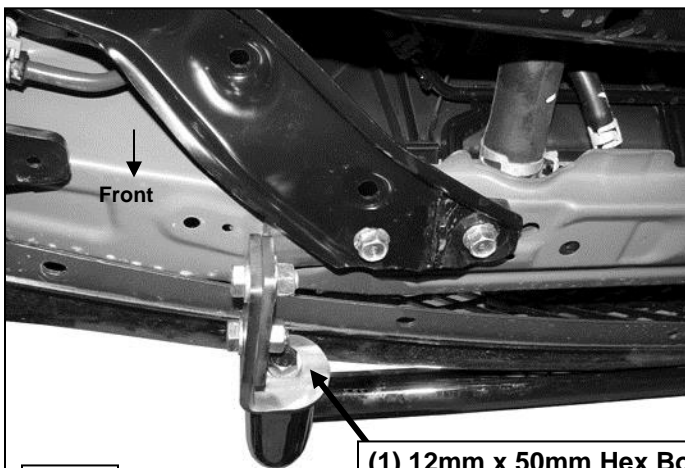

Fig 5
- Place the City Bar face down on a clean surface in front of the vehicle. **NOTE:** Use the packing materials to protect the finish on the City Bar. With assistance, carefully position the City Bar up to the Mounting Brackets. Attach the City Bar to the Mounting Brackets with the included (2) 12mm x 50mm Hex Bolts, (2) 12mm Lock Washers, (2) 12mm Flat Washers, **(Figure 5)**. Snug but do not tighten hardware at this time.